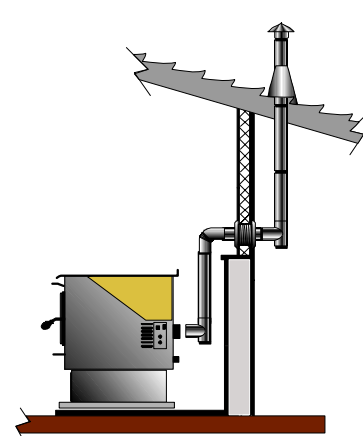

Figure 22
-  **HORIZONTAL, OUT THE WALL, THEN VERTICAL THROUGH THE EAVES AND ROOF**, terminating with a rain cap. Figure 22.